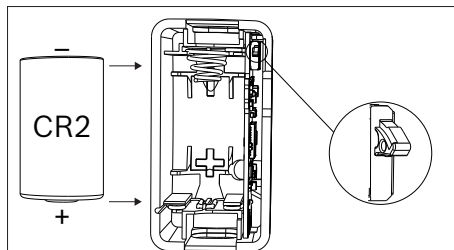

Figure 6.1: Tamper switch and battery orientation in detector
3. Refer to the diagram on the inside cover for correct polarity orientation, then insert the new battery. The green LED lights. Refer to Figure 6.1.
2. Push and hold the tamper switch, and reinsert the battery. When the green LED turns on, release the tamper switch before the green LED turns off (within 4 seconds). Refer to Figure 6.1.